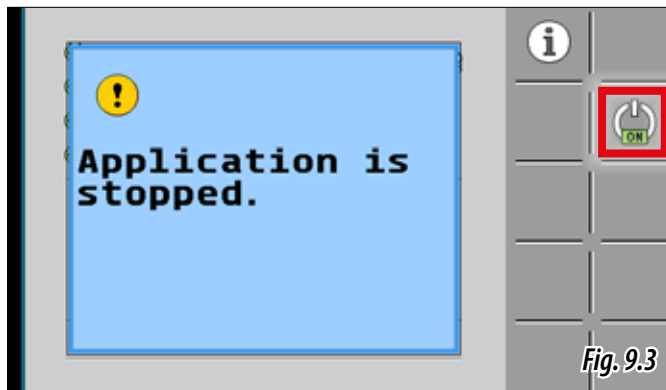

Fig. 9.3
- 1- With the application off (APP OFF), unfold the chassis and distributor heads (Fig. 9.3) until the sowing units touch the ground.